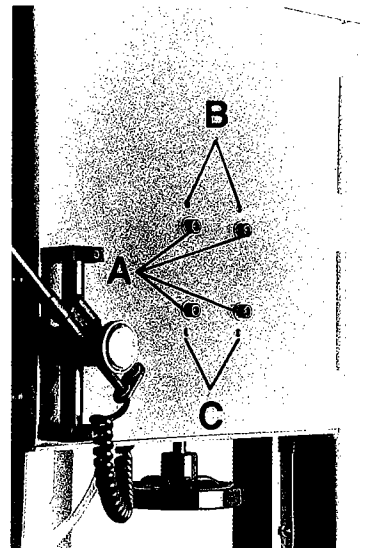

Figure 7
1. Slightly loosen all four hex cap screws (A) found at the rear of the machine at the top. See figure 7.
2. Tighten two top set screws (B) slightly to shift blade toward the front. Conversely, tighten two set screws (C) to shift blade toward the rear. Once blade is tracking properly, slightly tighten other two set screws and then tighten all four hex cap screws.